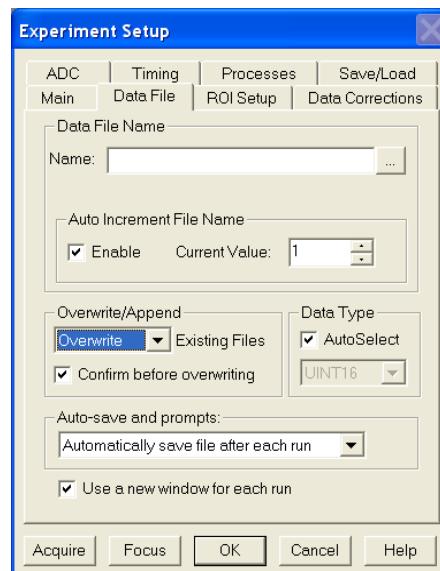

Figure 44. Data File tab
8. On the **Data File** tab (Figure 44), make the following selections.